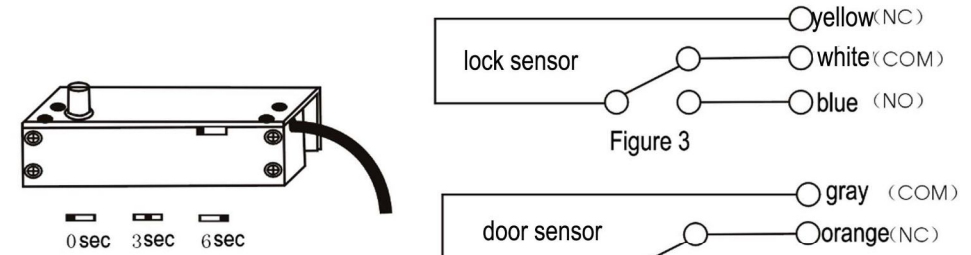

Figure 2
The operating voltage of this lock is DV12V, lock's bolt with self-locking function, also designed door sensor output and lock sensor output for ser to detect the door and lock working status . time delay available adjust 0/3/6 sec(Figure 2).
- 2.4. Time delay adjustment. it is located in the middle of the lock (Figure 2), it is 0S, 3S,6S.